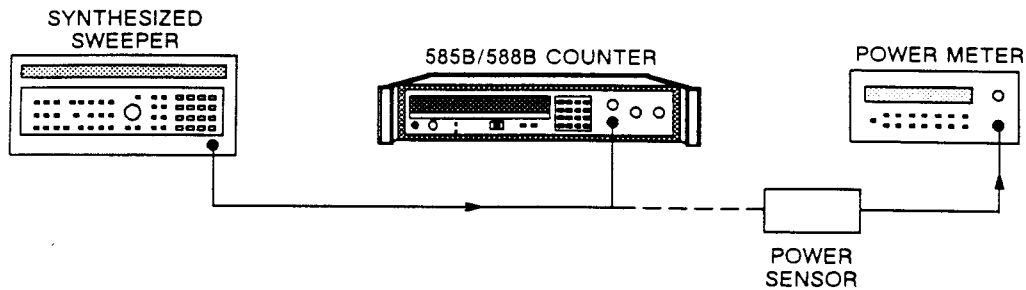

Figure 8-4. Band 1 Range and Sensitivity Test Setup.
1. Connect equipment as shown in Figure 8-4.